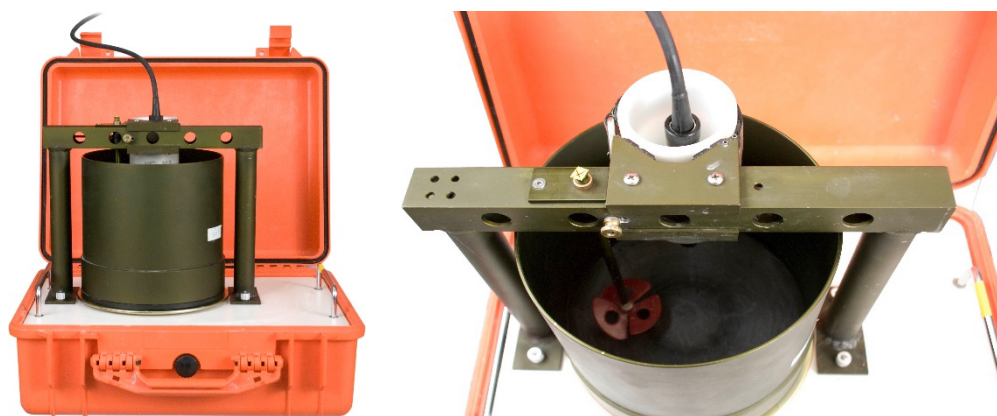

FIGURE 7-8. Portable Sediment Suspender (left) and OBS beam orientation in suspender tub (right)
4. After measuring the clear-water signal (Step 1, Section 7.5.1, *Turbidity* (p. 22)), mount the OBS500 so that the sensor end is 50 mm above the bottom of the suspender tub and secure it in the position that minimizes reflections from the wall; see FIGURE 7-8.